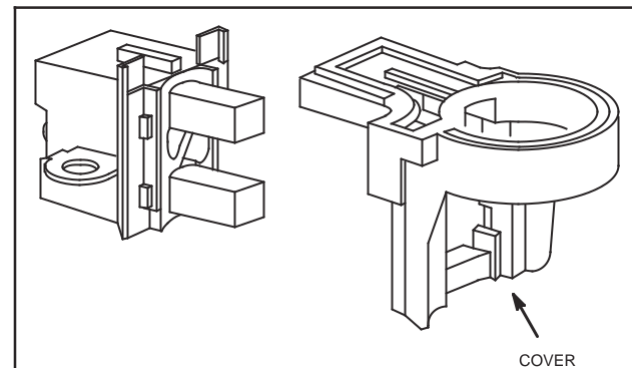

Fig. 41 – Install Brush Cover
8. Assemble cover to brush holder, Fig. 41.